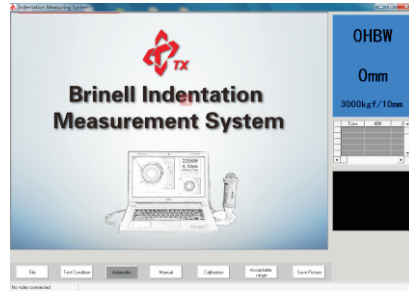

Figure 15: no video connection
4.2 No video connection(as shown in figure 15).